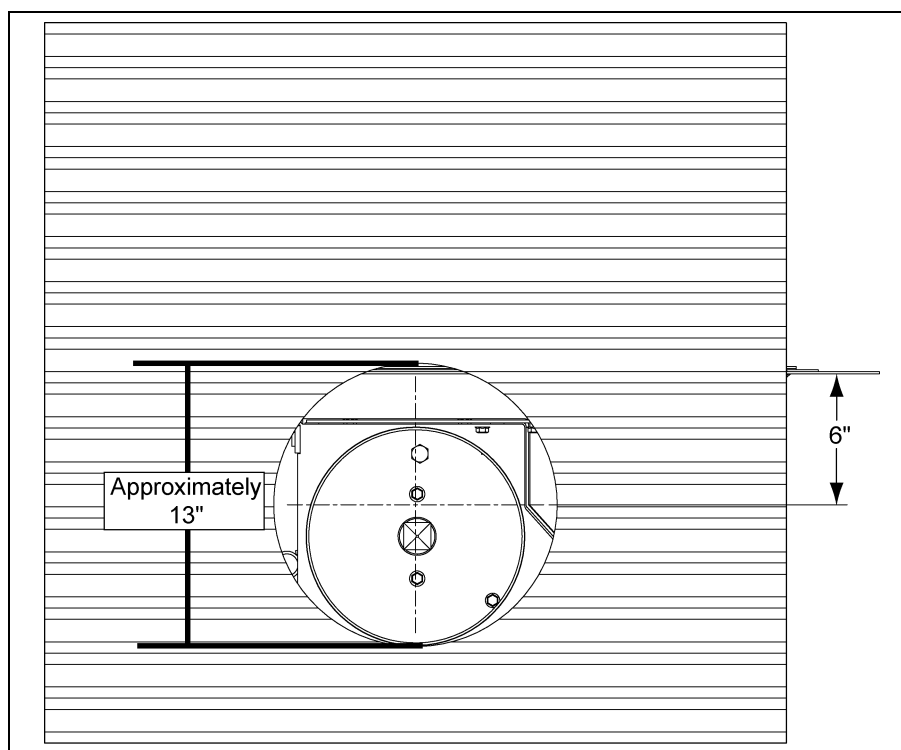
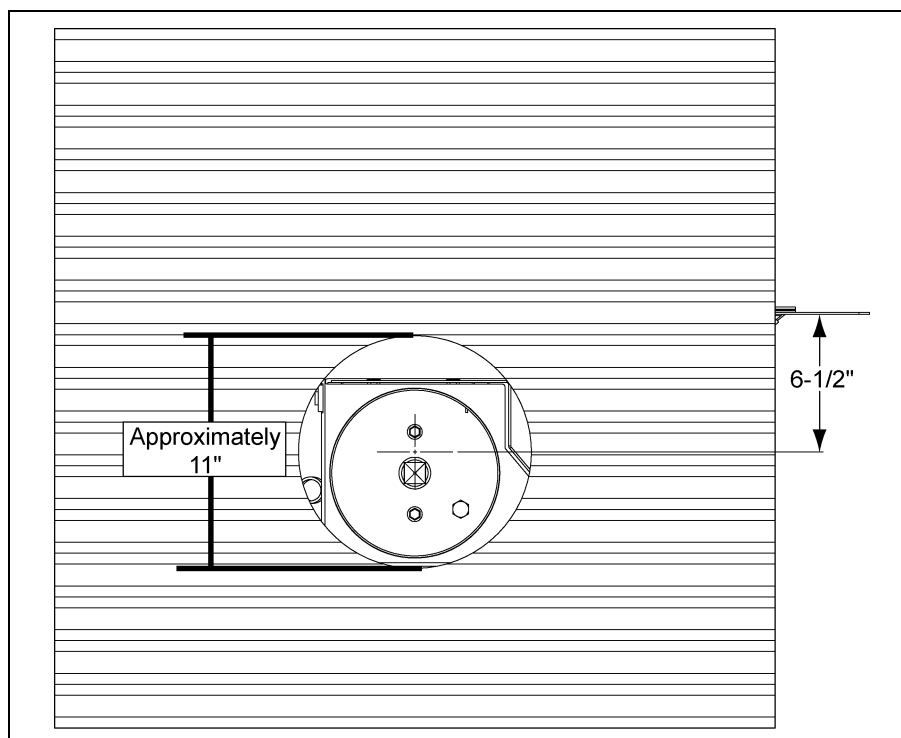
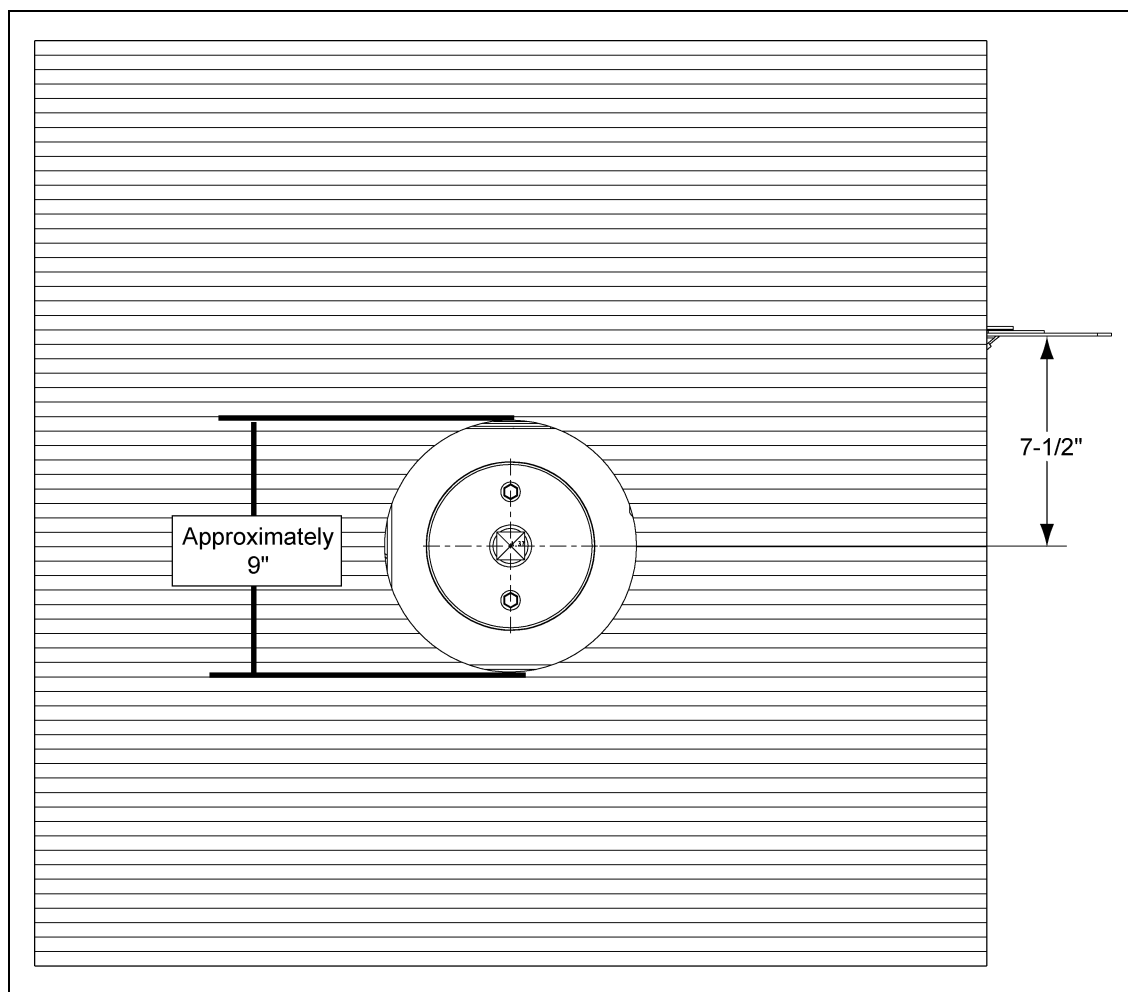

Figure 4E 10" Tube
Figure 4F 8" Tube
Figure 4G 6" Tube
1. Cut an opening in the bin wall for the unloading tube to pass through. See Chart on Page 18 for hole information. Additional views of the holes can be found in Figure 4E, Figure 4F below and Figure 4G on Page 18.